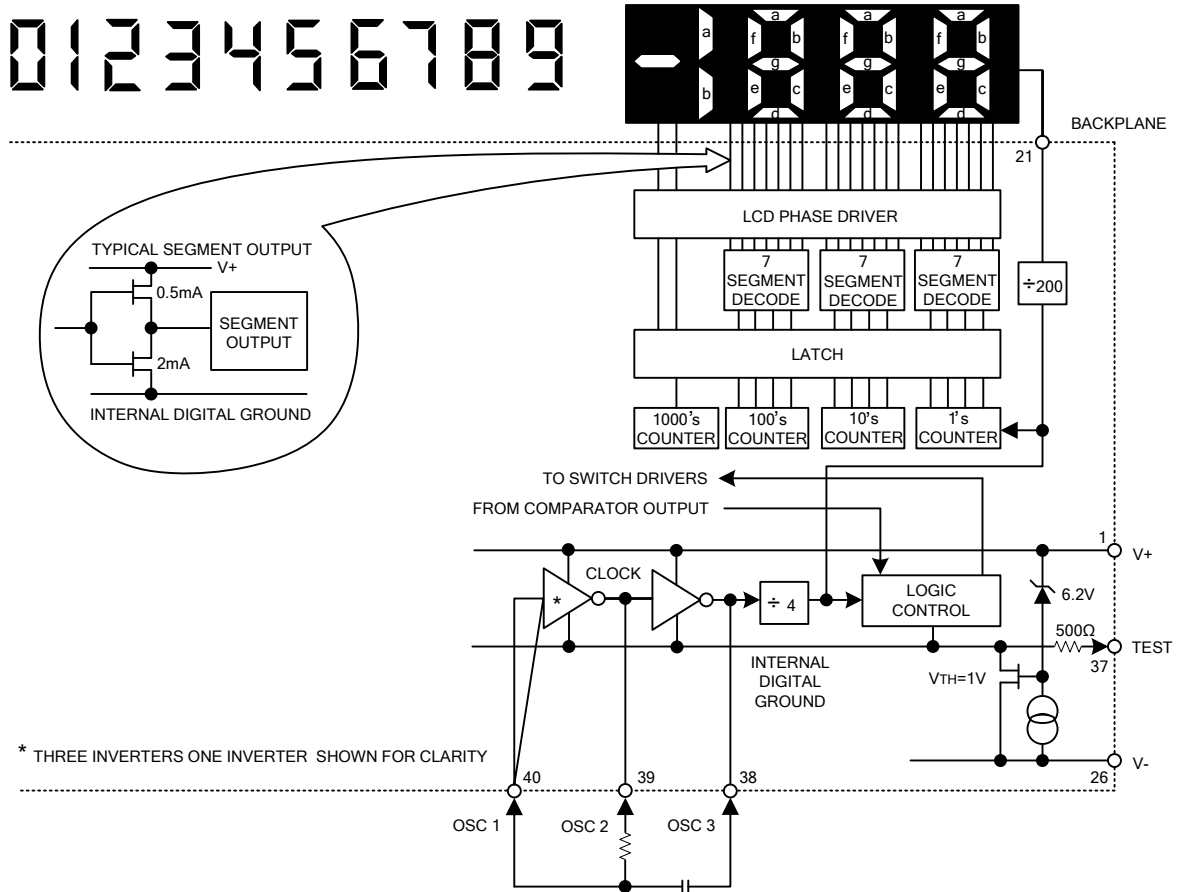

Fig.5 Digital Section
Fig.5 show the digital section for the UTC 7106, respectively. In the UTC 7106, an internal digital ground is generated from a 6V Zener diode and a large P-Channel source follower. This supply is made stiff to absorb the relative large capacitive currents when the back plane(BP) voltage is switched. The BP frequency is the clock frequency divided by 800. For three readings/sec, this is a 60Hz square wave with a nominal amplitude of 5V. The segments are driven at the same frequency and amplitude and are in phase with BP when OFF, but out of phase when ON. In all cases negligible DC voltage exists across the segments.